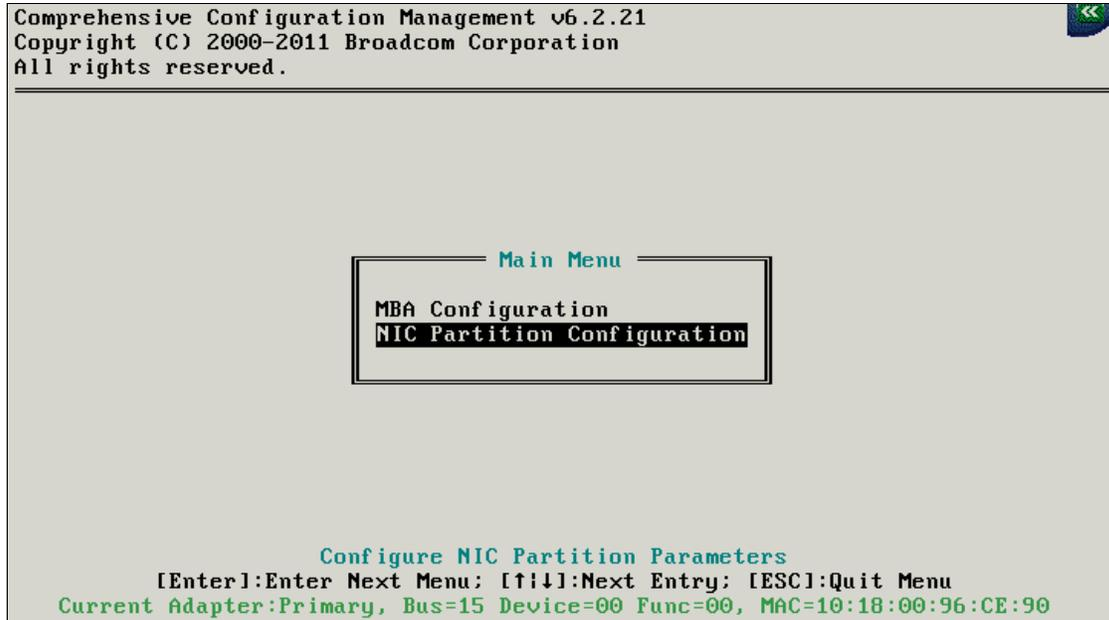

Figure 10-47 Broadcom Main Menu panel
6. In the Broadcom Main Menu panel (Figure 10-47), select **NIC Partition Configuration Menu**, and press Enter.